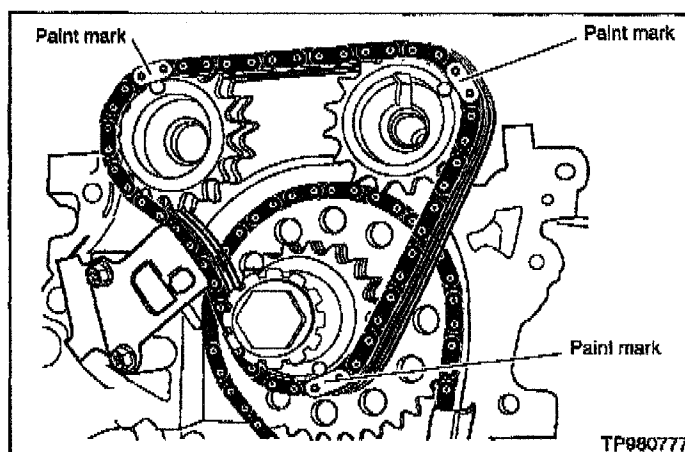

Figure 1
10. Wipe off the links of the timing chain next to the timing marks on the sprockets. Put paint marks on the timing chain, matching them with the timing marks on the cam sprockets and idler sprocket (see Figure 1).